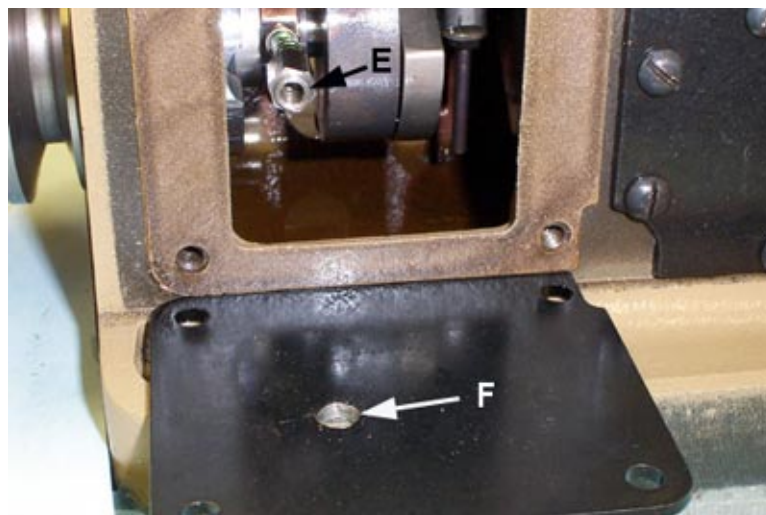

Fig 10
6) Align the oil fitting from the oil pump **E** (fig 10) with the hole **F** in the New lower crank chamber cover.